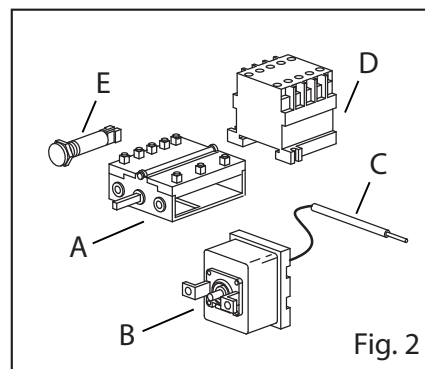
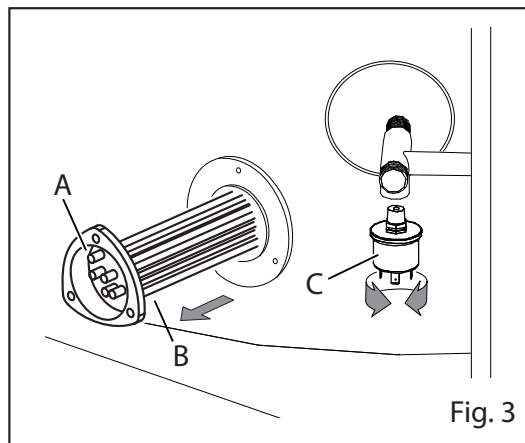

Fig. 2
Fig. 3
- Assembly new commutator (Fig. 2/A)
- Remove probe from heating element (Fig. 2/C e Fig. 3/A)
- Assembly new contactor (Fig. 2/D)
- Assembly bulb (Fig. 2/E)
- Remove heating element screws (Fig. 3/B)
- Unscrew pressure switch (Fig. 3/C)